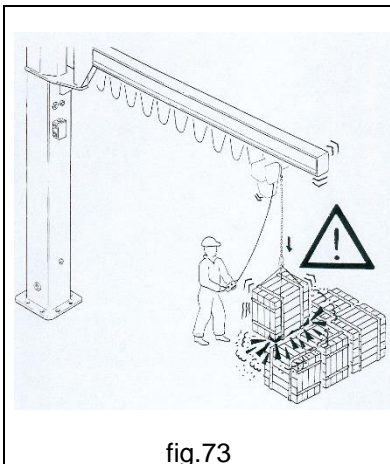

fig.73
- **NEVER** hit the supporting structures of the building, of machines and systems with the load or the arm (fig.73).